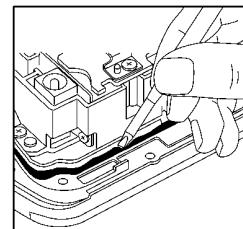

Fig. D8
- For instructions on how to hold the tools and the syringe for installation of the LCD O-ring, refer to "Notes on installation of the case O-ring" (Fig. D8).